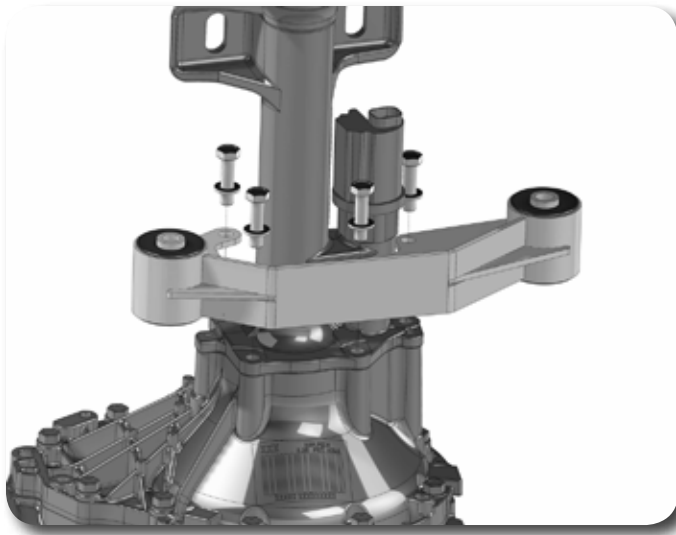

Figure 24
32. Locate the center differential bracket and 10mm x 40mm bolts and washers. Remove the 4 housing bolts and install the differential bracket with the provided hardware using some loctite. Torque bolts to 33 ft-lbs. Take care not to break the gasket seal. **Figure 24.**